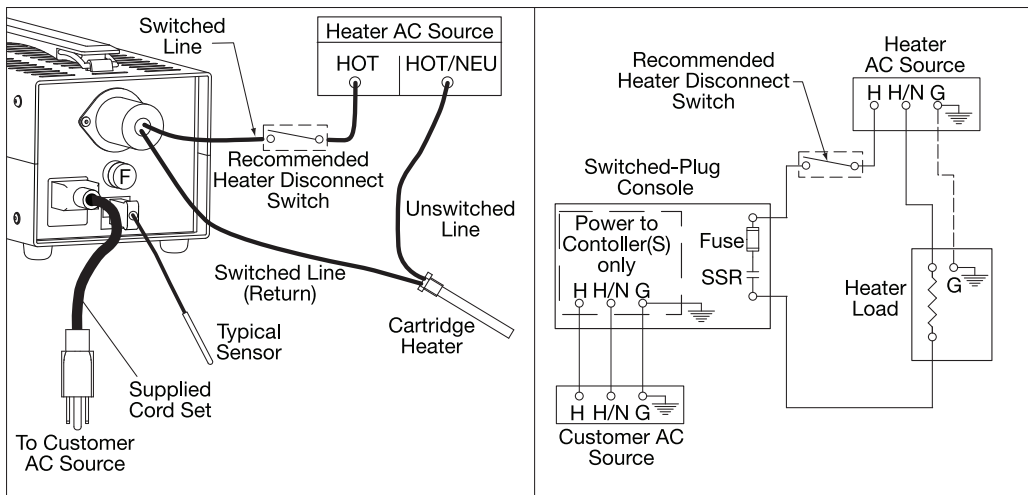

Figure 1. Application Wiring Example (one-zone shown)
2. Power for your heaters is NOT sourced through the console line cord. **Refer to Figure 1. Application Wiring Example on the next page.** The heaters must be wired to their own independent power circuit by a qualified electrician. Do not use the ground pin marked W. The must should be grounded using another connection.